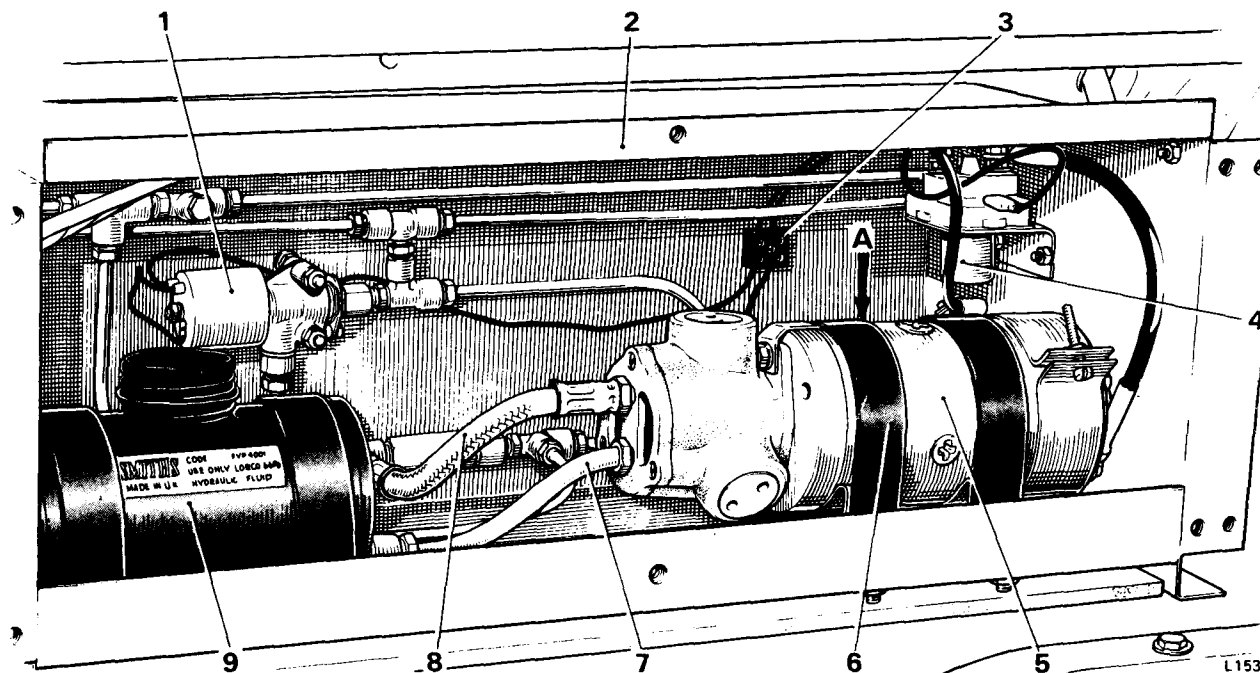

FIG. M99 ELECTRICALLY OPERATED HOOD COMPONENTS IN POSITION
Motor/pump unit—To remove (see Fig. M99)
Solenoid valves—To remove (see Fig. M99)
3. Disconnect the appropriate cable at the junction box (see Fig. M99).